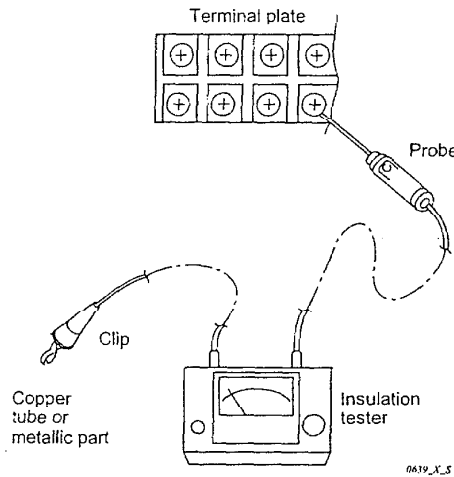
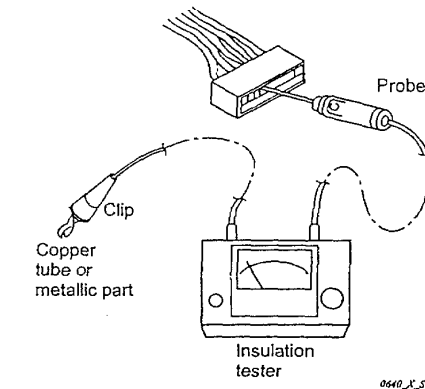

Fig. 14
Fig. 15
Clamp an aluminum plate fin or copper tube with the lead clip of the insulation resistance tester and measure the resistance by placing a probe on the terminal plate (Fig. 14)
③ Outdoor Unit
Measure the resistance by placing a probe on the terminal plate in the same manner as explained above ②. (Fig. 14)
④ Measurement of Insulation Resistance for Electrical parts
- Disconnect the connector of the desired electric part from terminal plate, P.C.B. Ass'y, etc. (Fig. 15)